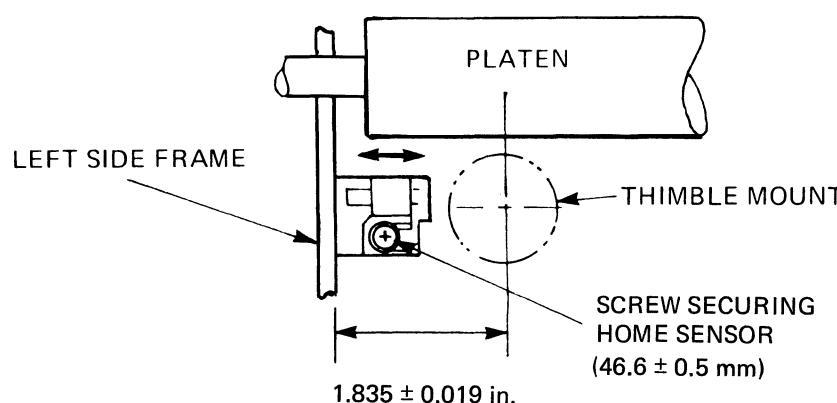

Figure 5-4 First Print Position
- Measure the first print position distance from the left side frame to the center of the thimble mount with the power on. It should be  $1.835 \pm 0.019$  inches ( $46.6 \pm 0.5$  mm) from the left side frame (see Figure 5-4).